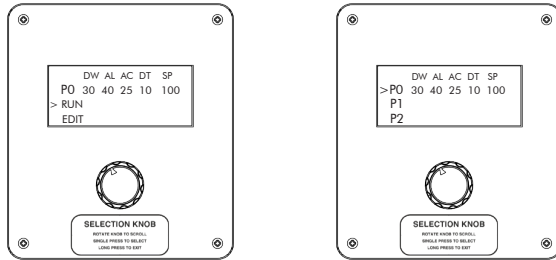

fig. no.21.1
• **PRESET MENU** (fig. no.21.1)